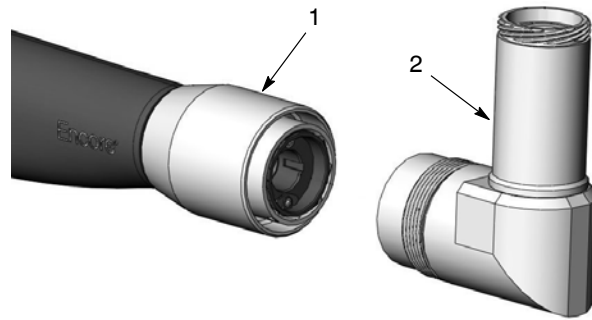

Figure 4 Installing the Extension on the Spray Gun
- See Figure 4. Install the extension body (2) onto the gun, orient it as desired, then thread the body nut (1) onto the extension. Tighten the nut hand-tight.
3. See Figure 4. Unscrew the body nut (1) and remove the extension (2) from the spray gun.
1. See Figure 4. Install the extension body onto the gun, orient it as desired, and thread the body nut onto the extension. Tighten the nut hand-tight.